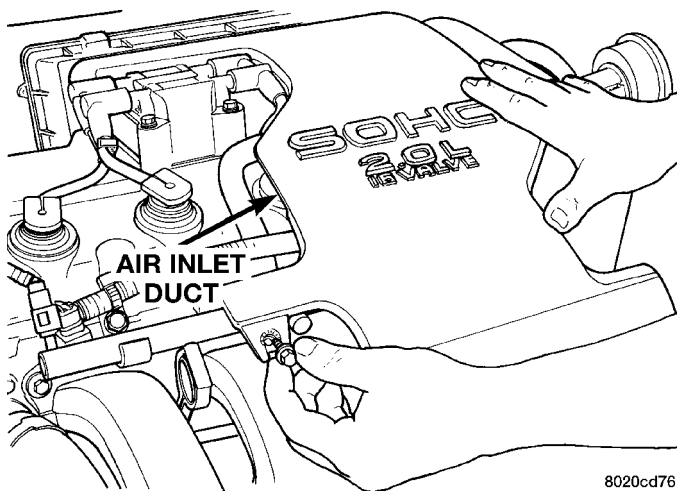

Fig. 32 Air Cleaner Inlet Duct
(3) Remove air cleaner inlet duct and air cleaner (Fig. 32), disconnect all vacuum lines, electrical wiring and fuel lines from throttle body.
(4) Remove throttle linkage.
(5) Remove accessory drive belts. Refer to Group 7, Cooling System for procedure.
(6) Remove power brake vacuum hose from intake manifold.
(7) Raise vehicle and remove exhaust pipe from manifold.
(8) Remove power steering pump assembly and set aside.
(9) Disconnect coil pack wiring connector and remove coil pack and bracket from engine.
(10) Remove cylinder head cover.
(11) Remove cam sensor and fuel injectors wiring connectors.
(12) Remove intake manifold **SOHC ONLY**. Removal procedure outline in Group 11.
(13) Remove timing belt and camshaft sprocket. Refer to procedure outlined in this section.